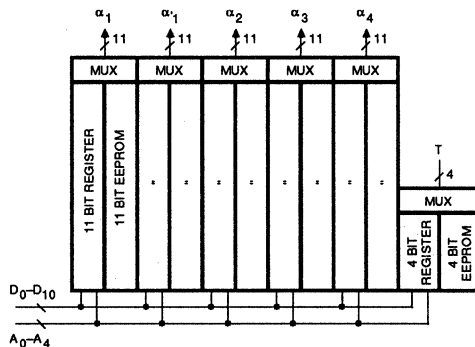
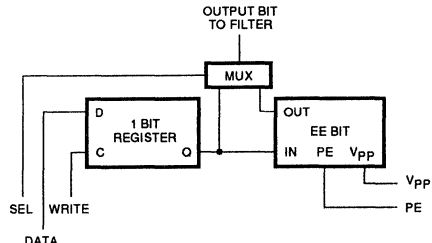

Figure 2. Storage Unit For Programming Bits in a Single Biquad Section
Figure 3. 1 Bit Storage Unit
Each biquad section needs 59 bits for programming, out of which, 55 bits are for the five filter coefficients and four bits are for the filter type. The programming bits are loaded into the chip through the serial interface and are stored in temporary registers. After the filter design is completed and the response meets the specifications, the programming bits can be transferred into non-volatile E² memory for permanent storage. The storage unit for one biquad section is shown in Figure 2. The details of one bit storage is shown in Figure 3. The source of the control bits for the biquad sections can be switched between the temporary registers and E² memory by a signal labeled SEL which is brought out to a pin. The E²PROM can be programmed when the Program Enable (PE) signal is made high. The PE signal is controlled through the SEL/PEN pin, which accepts a tri-level input signal.